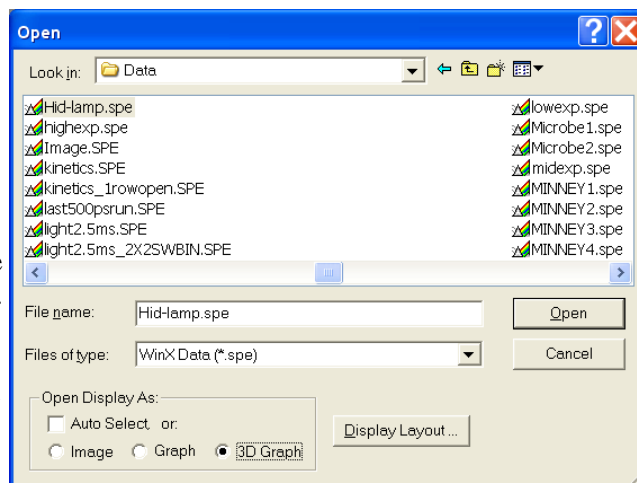

Figure 54. Open dialog
1. From the **File** menu select **Open**. The **Open** dialog (Figure 54) will appear, allowing you to select the image to be opened. The Look-In box provides a browser function so that the directory where the images are located can be easily accessed. By default the data directory is a subdirectory of WinView program directory. Files of the specified type (*the WinView/32 data type is \*.spe*) in the current directory and any subdirectories are listed in the box below the directory name.